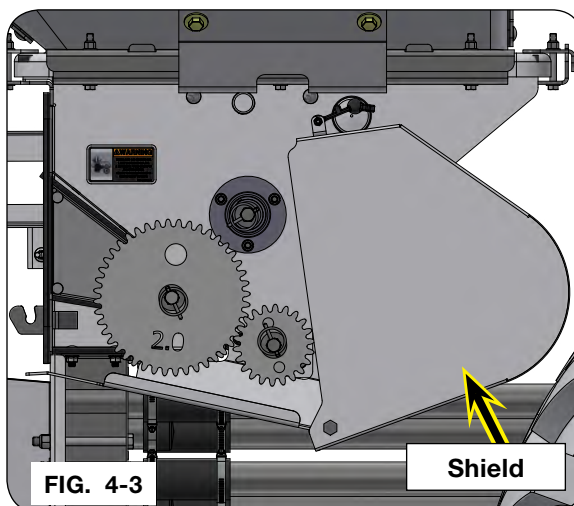

FIG. 4-3
5. Unlatch the left-hand and right-hand shield weldment panels and rotate them out of the way. (FIG. 4-3)